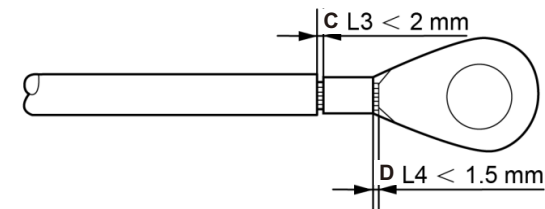

Figure 3.16 Strip wire
- 4) Insert the stripped wire into the OT terminal crimping area and crimp with a hydraulic crimp tool. (see Figure 3.16).